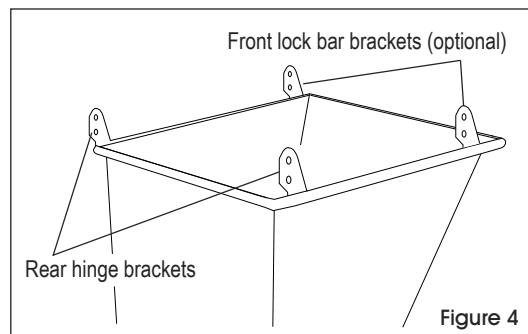

Figure 4
8. Repeat steps 6-7 with one left bracket on the front left side of the hopper. (See Figure 4)